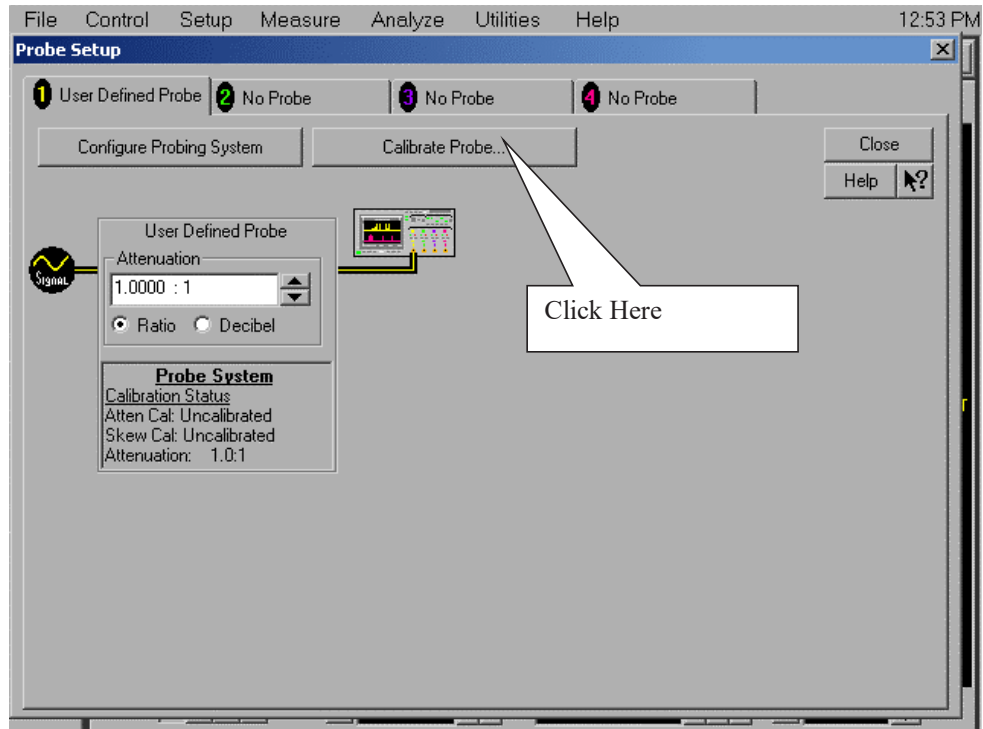

Figure 10 User Defined Probe Window.
- 4 Referring to Figure 10 below, perform the following steps: